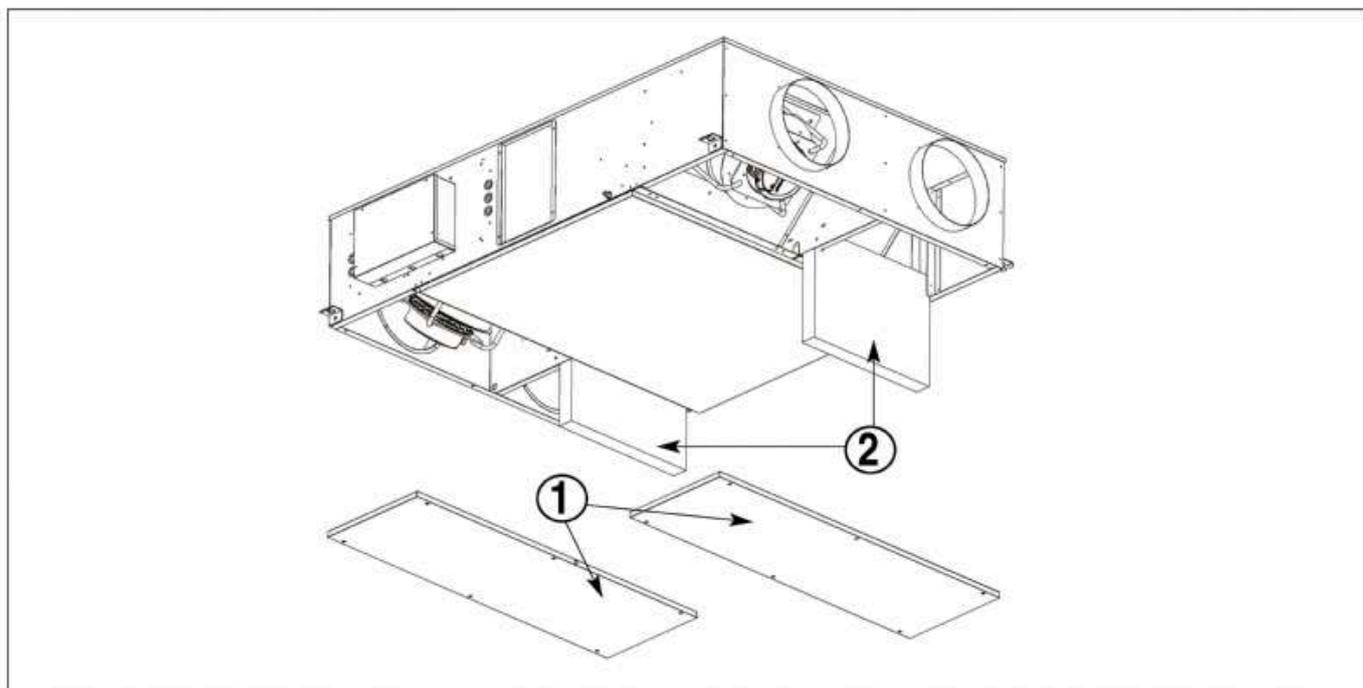

fig. 9
10.2.1 VERIFICA DELLA SEZIONE FILTRANTE (Fig. 9)
10.2.1 CHECK THE FILTERING SECTION (Fig. 9)
Remove the filter (2) as shown on the figure 9.